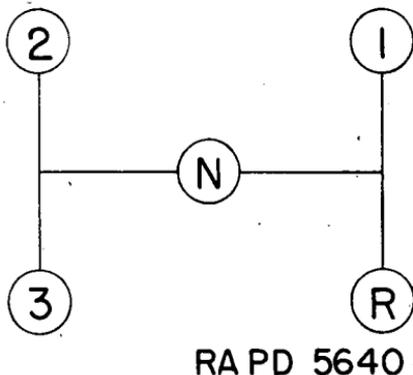
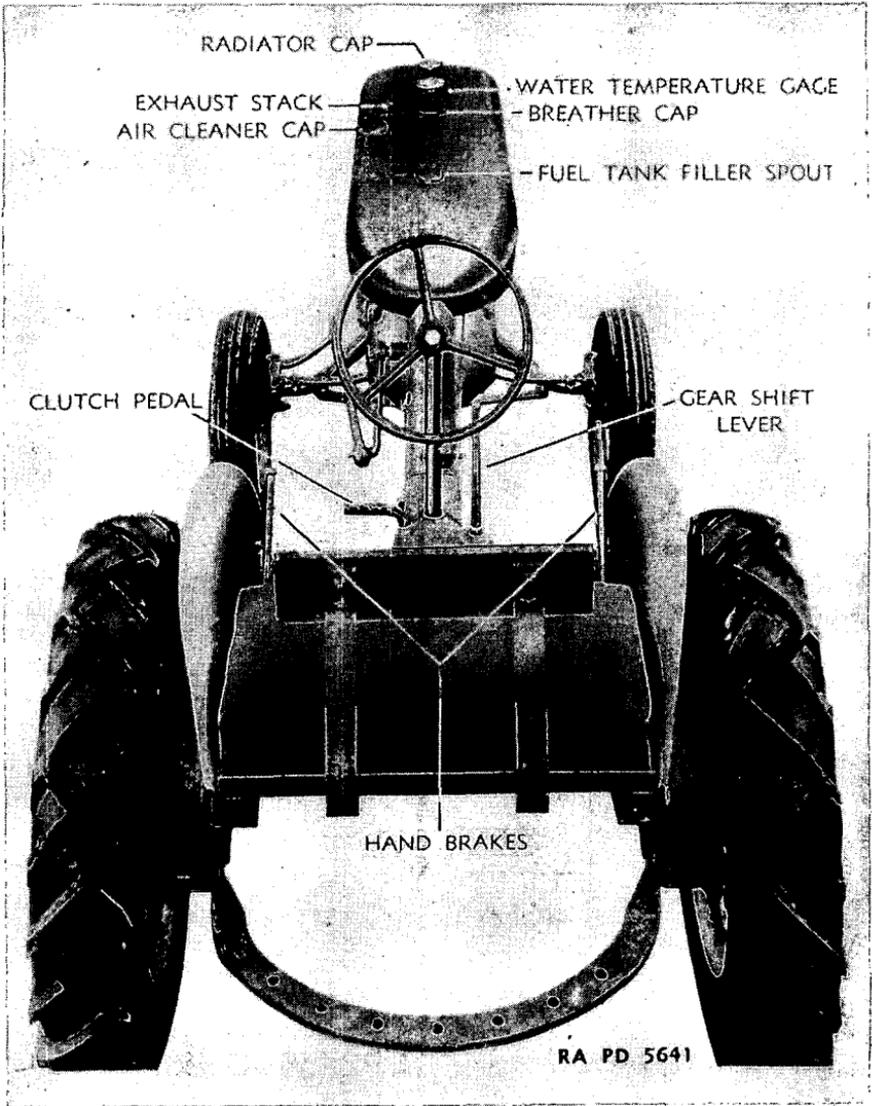

FIGURE 3.—Gear shift diagram.
FIGURE 4.—Rear view.
*c. Brakes.*—Independent brakes are provided for each of the rear wheels. Each brake is operated by its control lever located over the rear wheel at either side of the driver (fig. 4). The brakes are applied as the lever is pulled back. A catch is provided to maintain brakes in full applied position. Sharp turns may be made by applying the hand brake on the side toward which the turn is to be made and turning the steering wheel in the usual direction. This will allow the tractor to pivot about the rear wheel on which the brake is applied.
*d. Gear shift lever.*—A gear shift lever is mounted on the transmission case in front of the driver (fig. 4). It provides three forward speeds for the tractor and one reverse speed. The gear shift positions as indicated in figure 3 are as follows:
*e. Clutch.*—A clutch pedal is provided on the left side of the tractor (fig. 4) convenient to the operator's left foot. The clutch pedal is depressed each time it is desired to shift gears and the lever placed in the proper gear position, after which the clutch pedal is released slowly to avoid a sudden jerk at starting and the throttle is opened far enough to avoid stalling the engine. A latch is provided which may be used to hold the clutch in depressed position.